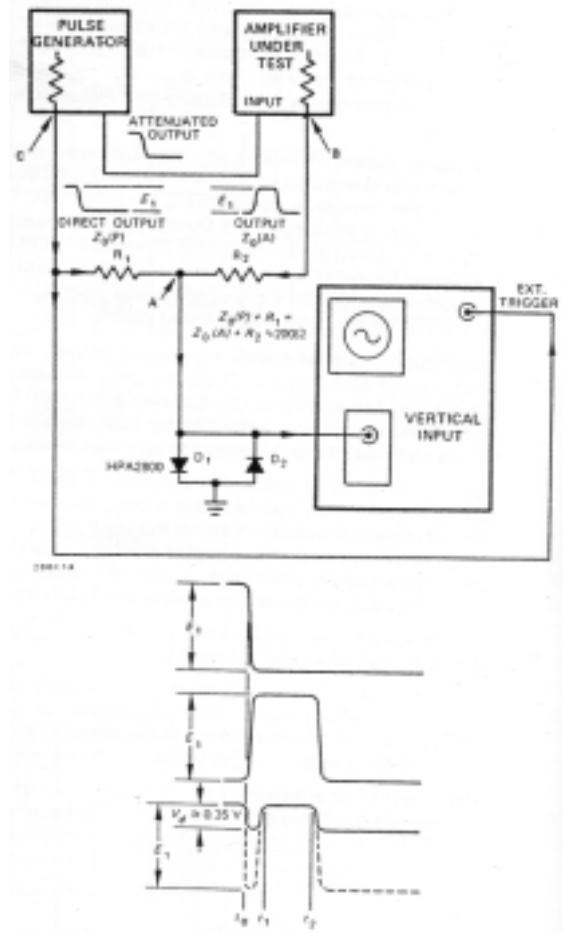

Fig. 21. Circuit Used to Measure Nonlinearity.
**LINEARITY** The integral nonlinearity of the 575A can be measured by the technique shown in Fig. 21. In effect, the negative pulser output is subtracted from the positive amplifier output to cause a null point that can be measured with excellent sensitivity. The pulser output must be varied between 0 to 10 V, which usually requires an external control source for the pulser. The amplifier gain and the pulser attenuator must be adjusted to measure 0 V at the null point when the pulser output is 10 V. The variation in the null point as the pulser is reduced gradually from 10 V to 0 V is a measure of the nonlinearity. Since the subtraction network also acts as a voltage divider, this variation must be less than
**OUTPUT LOADING** Use the test setup of Fig. 21. Adjust the amplifier output to 10 V and observe the null point when the front panel output is terminated in 100  $\Omega$ . The change should be <2.5 mV.